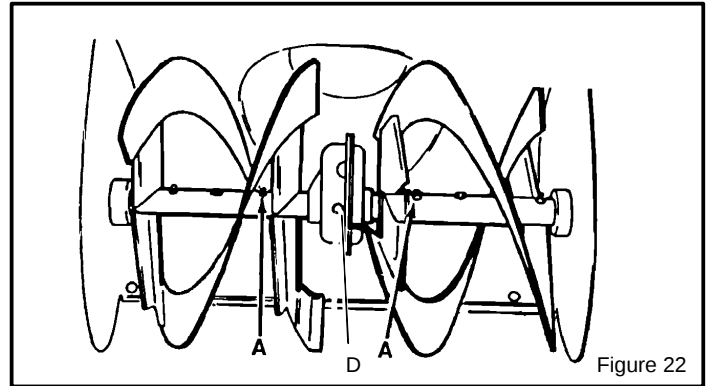
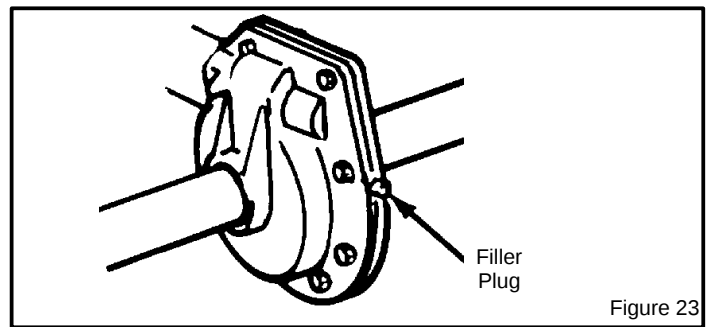

Figure 22
Figure 23
Remove filler plug D (Figure 22 and Figure 23), once a year. If grease is visible, do not add. If grease is not visible, use a piece of fine wire, like a dipstick to check if there is grease in the gear box. Mobilux EP1 and Shell Aldania EP1 are suitable equivalents.
1. **Auger Shaft** - Using a hand grease gun, lubricate the auger shaft zerk fittings (A) every ten (10) operating hours. Each time a shear bolt is replaced, the auger shaft **MUST** be greased (Figure 22). (See To Replace Auger Shear Bolt in the MAINTENANCE section).